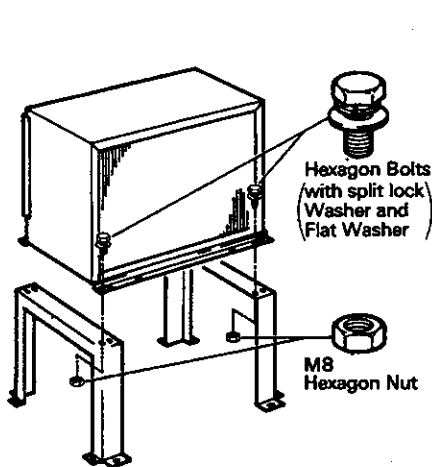

Fig. 6
- 1) Secure the Legs to the condenser unit with eight M8 x 16 mm Hexagon Bolts and M8 Nuts as shown in the illustration. (See Fig. 6.)